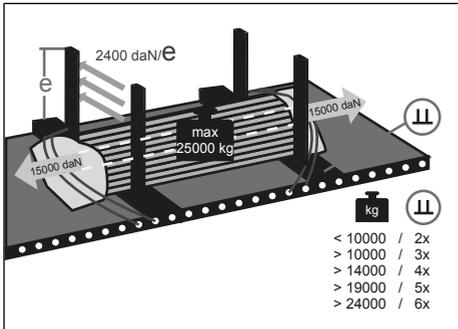

Fig. 8-18: Multi Fix system
- ▶ Position the steel pipes on the footing beam between the vertical support beams (see "Fig. 8-18: Multi Fix system", pg. 103).
- ▶ Install the safety net at the ends of the steel pipe (see "Fig. 8-18: Multi Fix system", pg. 103).